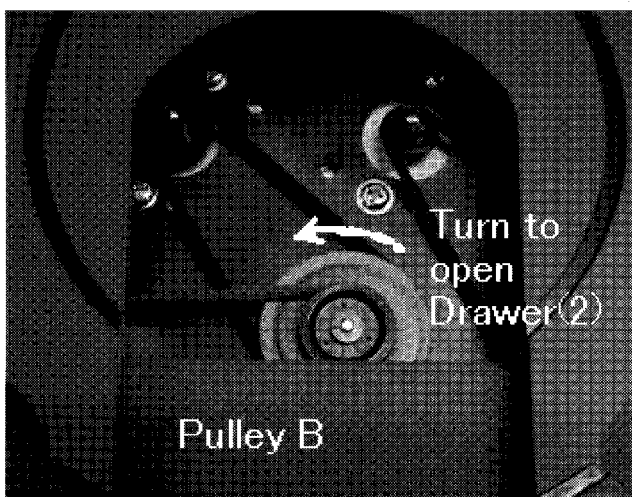
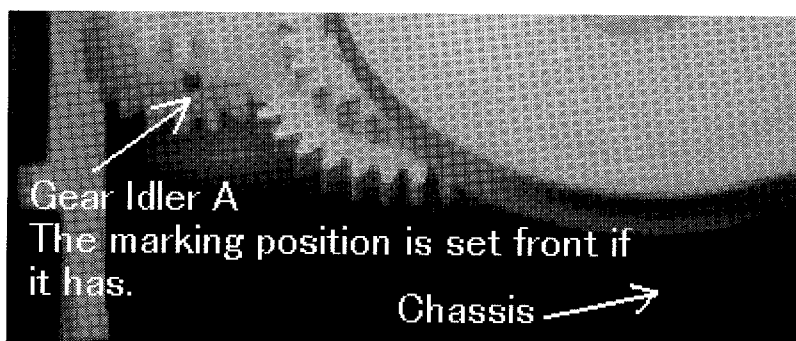
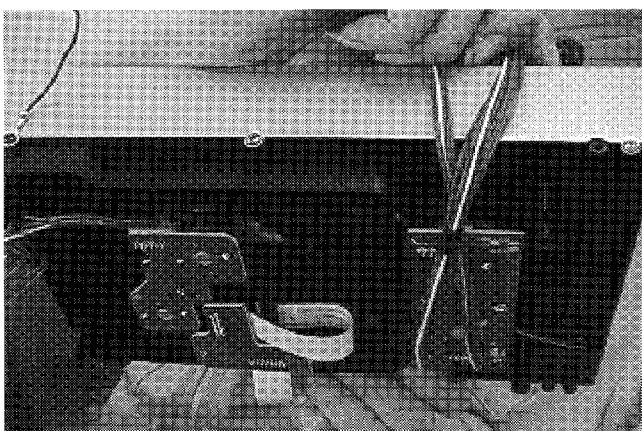

Fig.11
Fig. 18
Fig. 19
- 1) Remove 6 SCREWS(115) from COVER(23).
- 2) Turn PULLEY B(49) anti-clockwise and pull DRAWER(2) block. The DRAWER block is easily pulled out. (See Fig.11)
(See Fig.18) Set it as its marking faced to the front. (If it doesn't have any marking, no need to take care of direction.)
- 10) When you assemble DRAWER block with CHASSIS, it is important that linear gears in CHASSIS gang well with GEAR IDLER A(39). While GEAR IDLER A isn't ganged well, turn PULLEY B(49) (Fig. 11) a bit and make them ganged. (Take care not to turn it much. GEAR IDLER A should be in +/- 45 degrees from the center.) (See Fig. 18)
- 11) Push in two hooks at the both sides as they sound click. (You may fix the right side hooks first before you move Drawer block inside in item 9).
- 12) Put COVER(23) and mount six SCREWS(115).
- 13) This is a completed or removed condition. (See Fig. 19.)